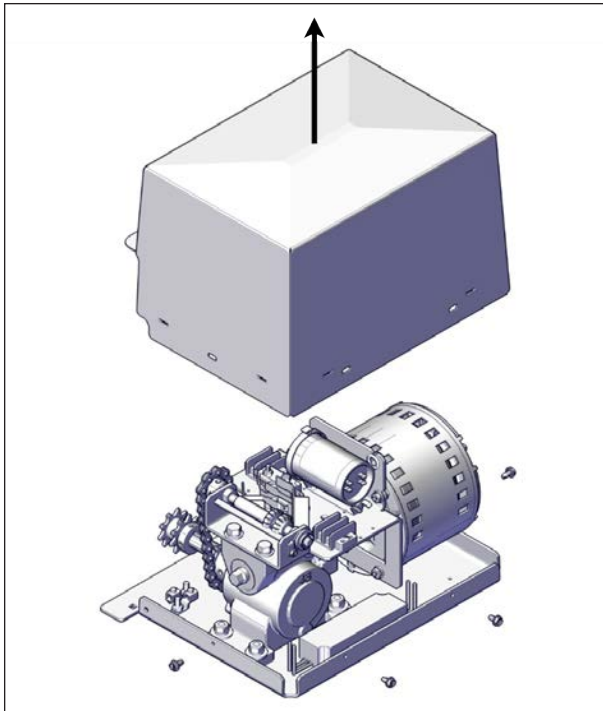

FIGURE 83: OPERATOR COVER REMOVAL
2. Remove the screws at the bottom of the operator cover (4) and remove the cover as shown in Figure 83.